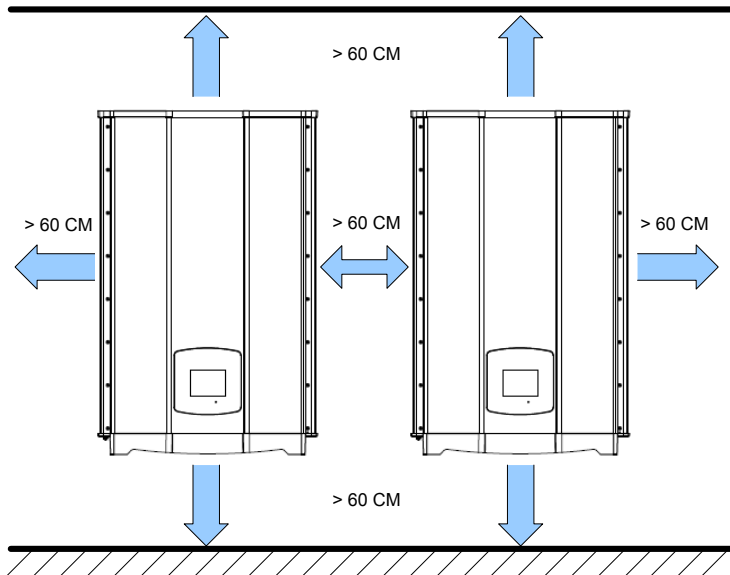

Figure 4-3 Proper installation gap
- ◆ It is essential to ensure sufficient space for product operation as shown in Figure 4-3.